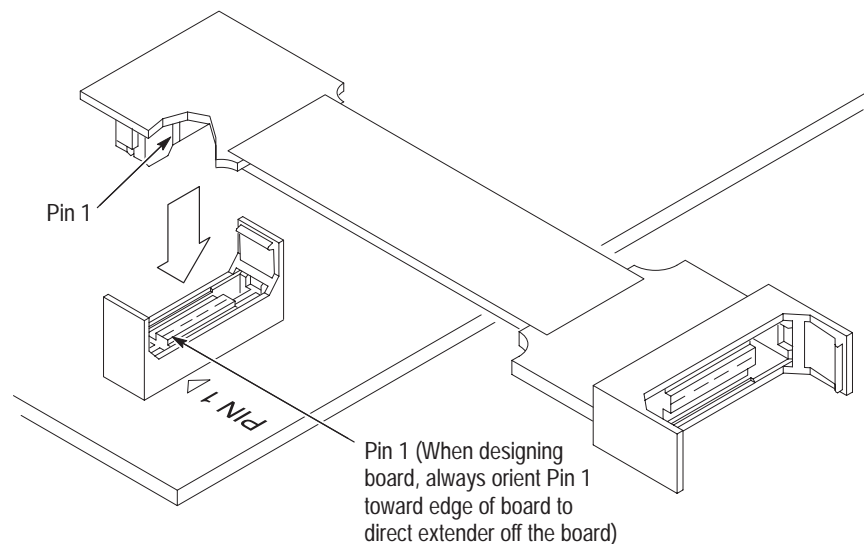

Figure 4: Connecting the Low-Profile Extender
2. Position the low-profile end perpendicular to the connector and gently connect the extender as shown in Figure 4.
NOTE. Be sure to orient pin 1 on the Mictor connector in your SUT to direct the extender off the board as shown in Figure 4.